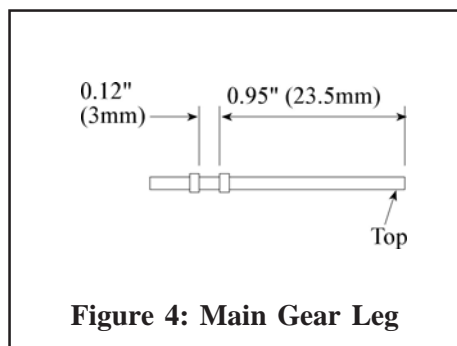

Figure 4: Main Gear Leg
6. Scribe and/or cut the main gear strut from the pour sprue, and clean up the trailing edge. Glue it in the slot under the centre section. Cut 2 pieces of the 0.060" dia rod supplied to 1.31" (33.5 mm) in length. Wrap thin strips of lead foil or plastic strip around the shaft as shown in Figure 4 to represent the cylinder section of the gear leg. Glue the legs between the angled blocks on the gear struts and the boots on the fuselage side. It is probably best to leave the fitting of the wheels until the end.